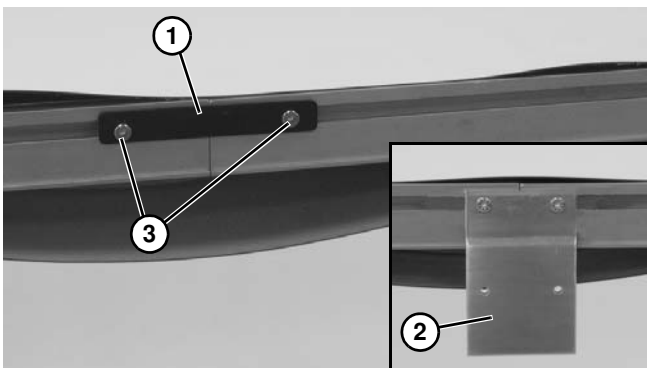

Figure 13
5. Join conveyor sections and install frame connector plates (**Figure 13, item 1**) or connector/mount brackets (**Figure 13, item 2**) and screws (**Figure 13, item 3**) on both sides as indicated. Tighten screws to 7 Nm.